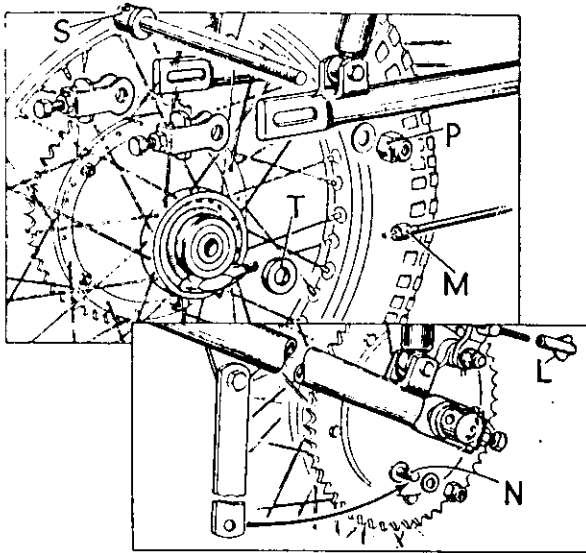

Fig. F6a. Removing rear wheel.
Disconnect the speedometer cable from its driving unit at (M) Fig. F6a, and then unscrew the brake adjuster from the brake rod. Uncouple the chain at its spring link and unwind it from the rear wheel sprocket. Be careful to leave it in position on the gearbox sprocket to simplify replacement.